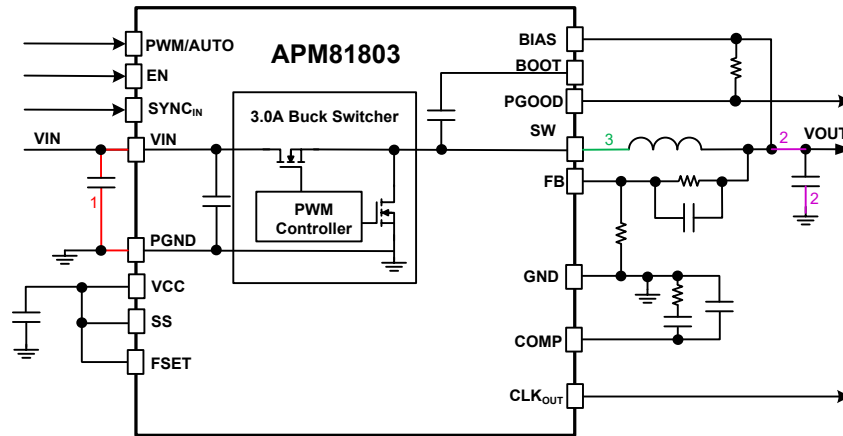

Figure 14: PCB Layout Critical Paths
The APM81803 is designed to minimize electromagnetic (EM) emissions when proper PCB layout techniques are adopted. A good PCB layout is also critical for the APM81803 to provide clean and stable output voltages. Design guidelines for EMI/EMC-aware PCB layout and minimum  $R_{\theta JA}$  are presented below. Figure 14 shows a typical application schematic of a synchronous buck regulator IC with critical power paths/loops.
- Place the ceramic input capacitors as close as possible to the VIN pin and PGND pins to make the loop area minimal, and the traces of the input capacitors to VIN pin should be short and wide to minimize the inductance. This critical loop is shown as trace 1 in Figure 14. The bulk/electrolytic input capacitor can be located further away from VIN pin. The input capacitors and APM81803 IC should be on the same side of the board with traces on the same layer.
- Place the output capacitors relatively close to the output inductor ( $L_O$ ) and the APM81803. Ideally, the output capacitors, output inductor, and the APM81803 should be on the same layer. Connect the output inductor and the output capacitors with a fairly wide trace. The output capacitors must use a ground plane to make a very low-inductance connection to the PCB GND. These critical connections are shown as trace 2 in Figure 14.
- Place the output inductor ( $L_O$ ) as close as possible to the SW pin with short and wide traces. This critical trace is shown as trace 3 in Figure 14. The voltage at SW node transitions from 0 V to  $V_{IN}$  with a high  $dv/dt$  rate. This node is the root cause of many noise issues. It is suggested to minimize the SW copper area to minimize the coupling capacitance between SW node and other noise-sensitive nodes; however, the SW node area cannot be too small in order to conduct high current. A ground copper area can be placed underneath the SW node to provide additional shielding.